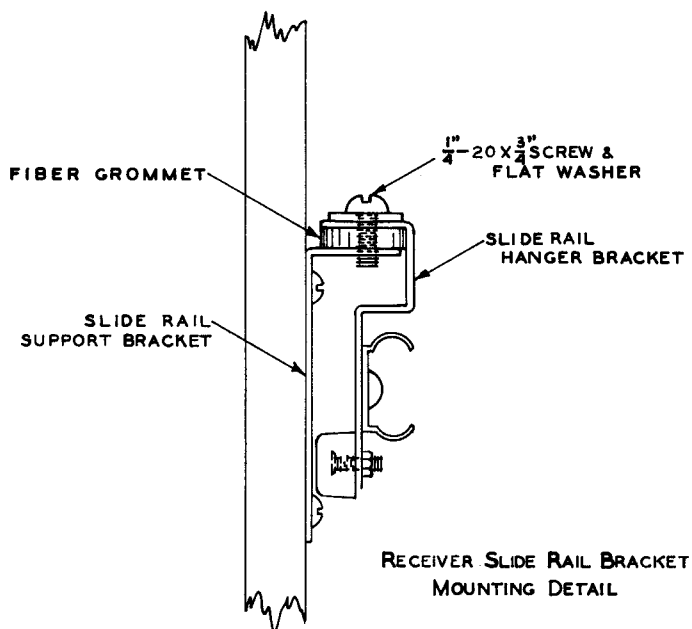

Figure 2 Slide Rail Bracket Mounting Detail
5. Fasten the slide rail hanger brackets, which are packed with the receiver, onto the support brackets which are mounted in the cabinet, using the fiber grommets, screws and flat washers furnished with the receiver. A detail of this assembly is shown in Figure 2.